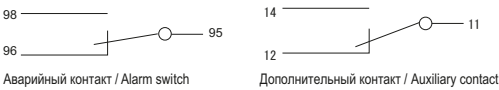

Рисунок 2 – Схема электрическая устройства / Figure 2 – Electrical diagram of the device
The electrical diagram of the device is shown in figure 2.
– perform electrical connection of the device according to figure 2 and table 2;
– using a multimeter, check the state of contacts according to figure 2 and table 2 in the actual MCCB "TEST" position, in the "O" ("OFF") position and in the "I" ("ON") position.